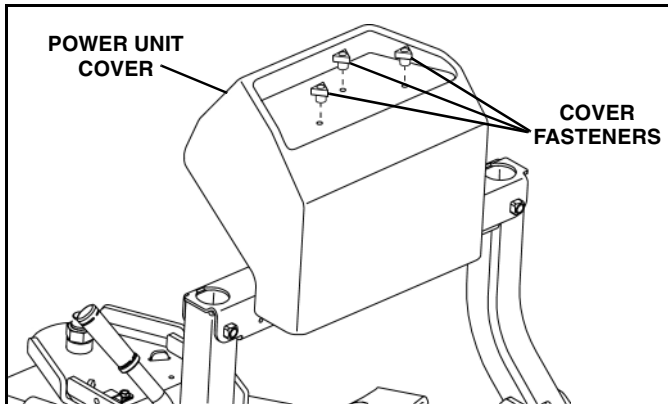

Figure 1-14
14. Remove three plastic fasteners and cover from power unit. (See Figure 1-14).